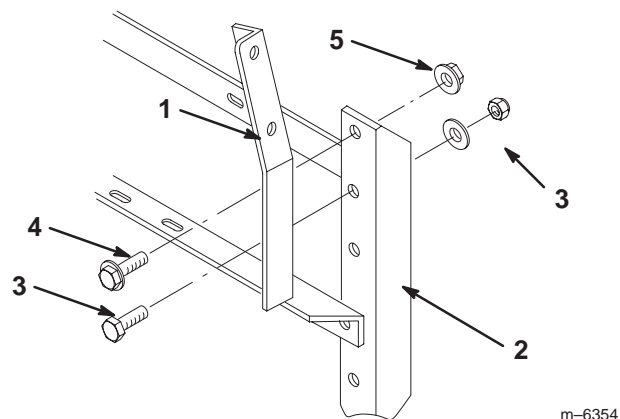

Figure 7
- If you have the covered booms or do not have booms, install the control box support bracket to the right rear boom frame (Fig. 7) using existing hardware and a flange-head bolt (1/2 x 1/2 inch) and a flange nut (1/2 inch).